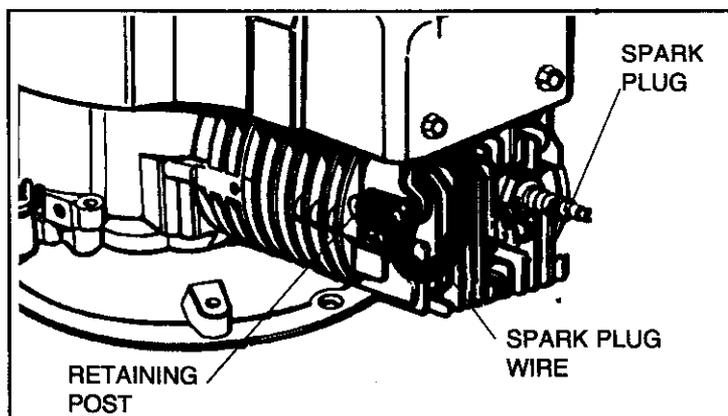

Figure 6
② **DISCONNECT SPARK PLUG WIRE FROM SPARK PLUG AND ATTACH IT TO RETAINING POST (see Figure 6 on Page 3).**
③ **INSTALL ENGINE BRAKE CABLE AND STARTER ROPE:**
⚠ A. DISCONNECT SPARK PLUG WIRE FROM SPARK PLUG AND ATTACH IT TO RETAINING POST (see Figure 6).